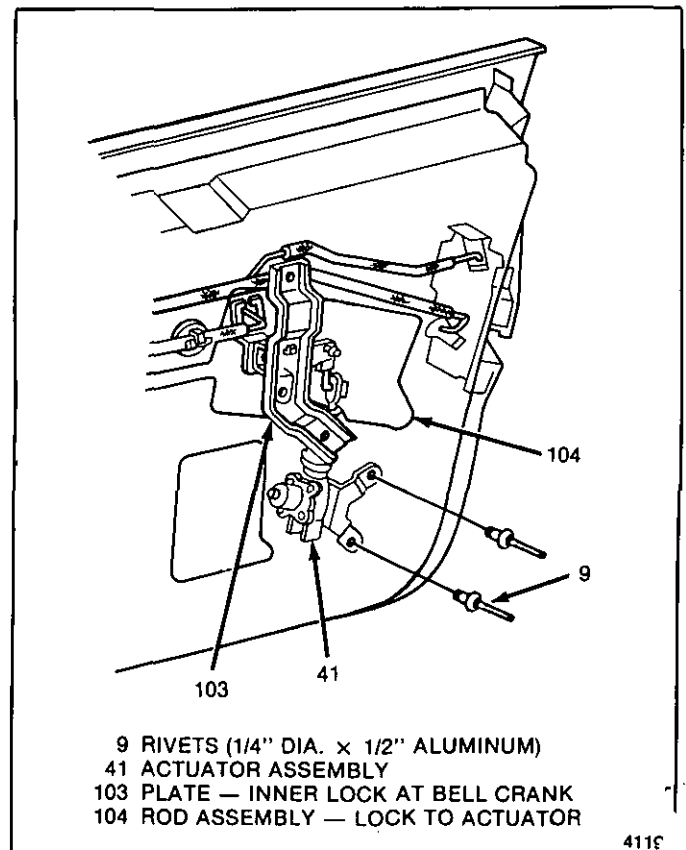

Fig. 5-28-Power Door Lock System
**Power Lock Actuator****↔ Remove or Disconnect (Figure 5-28)**
4. Rivets (9)
### ↔ Install or Connect (Figure 5-28)